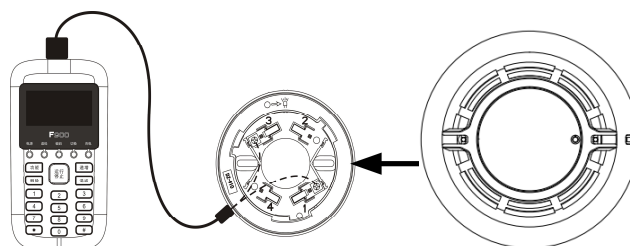

Fig 4
- 3) Coding address: As shown in Fig.4, detector is accessed via the detector mounting base on the coder, non-polarity connection is adopted for the terminals L1 and L2, set the coder with the coding function, select the correct address number and press the RUN key to complete the address code setup. (Note: See the User's Manual of the coder for the detailed operation.)
- 4) Working mode configuration: Working mode can be set via coder according to different applications. When setting the working mode, detector is accessed via the detector mounting base on the coder, (see Fig. 4). (Note: See the User's Manual of the coder for the detailed operation.)